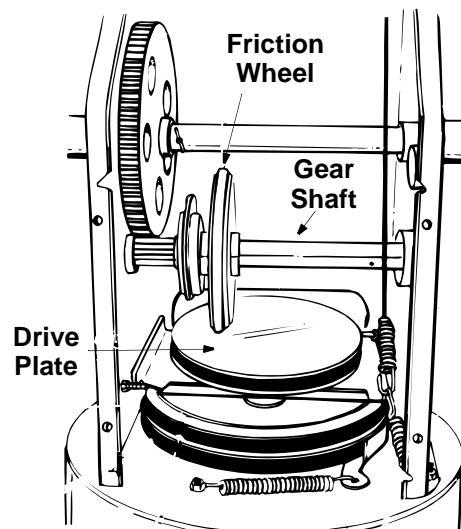

Figure 25
4. With the traction control clutch engaged, check if the friction wheel is contacting the drive plate. See Figure 25.